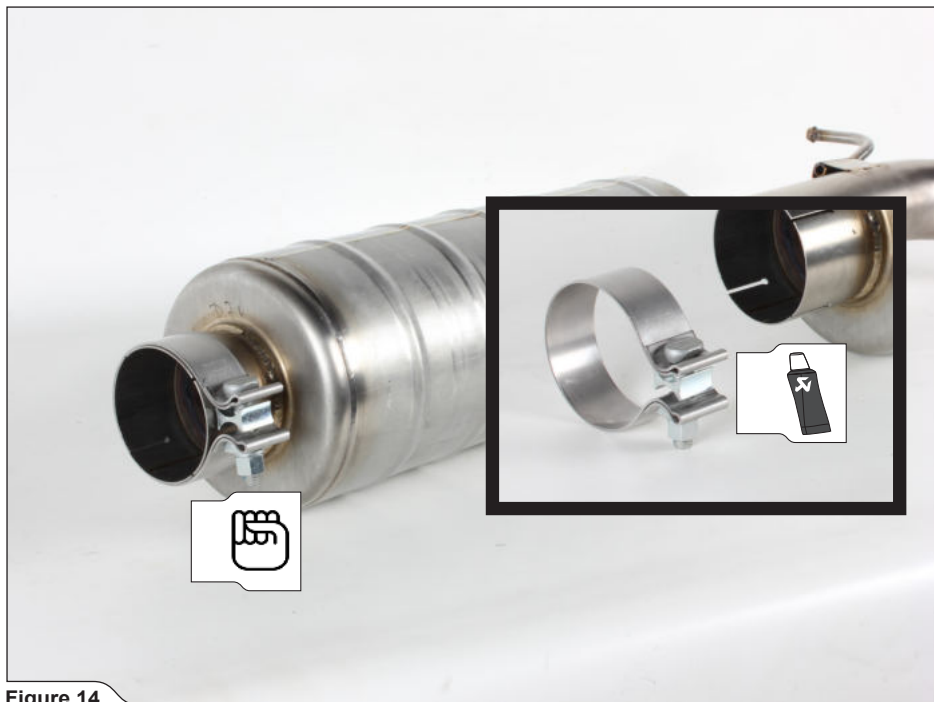

Figure 14
5. Correctly orient and slide the clamp from installation kit onto the link pipe (**Figure 14**).